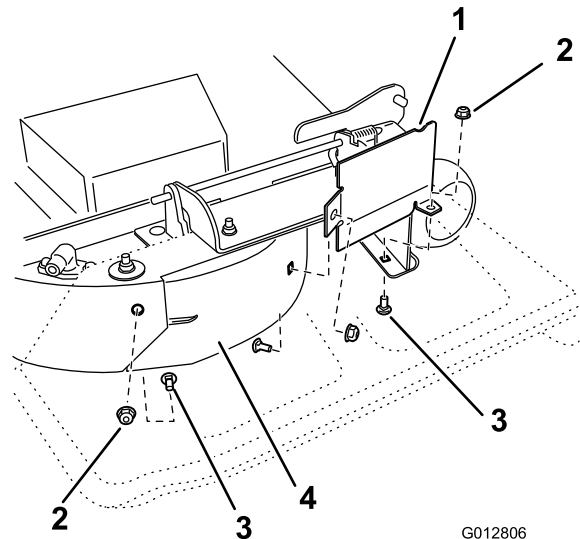

Figure 33
8. Remove the carriage bolt (5/16 x 3/4 inch) and locknut (5/16 inch) on the rear wall of the mower deck securing the baffle to the deck (Figure 33).
9. Locate the baffle guard at the front edge of the side discharge opening. Remove the fasteners securing the baffle guard and the right baffle to the mower deck as shown in Figure 33. Remove the baffle guard and retain all fasteners.